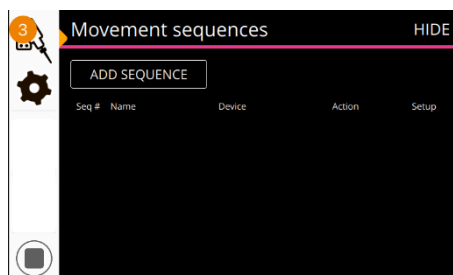

Figure 41. Movement sequences
Movement sequences is a configurator (Figure 41) that enables setting a list of XYZ(D) coordinate waypoints that can be then moved through with specified speed per waypoint as a complete sequence.